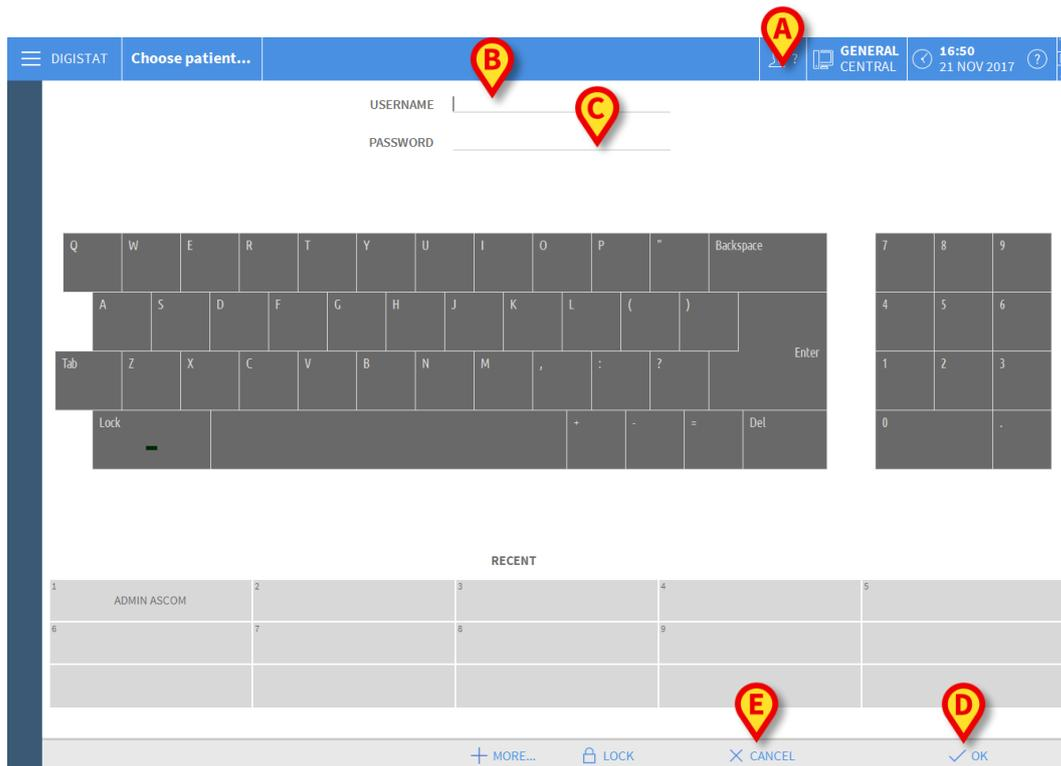

Fig 6
For this reason, at the beginning of every work session, it is necessary to click the **User** button (Fig 6 **A**).
- Enter your username in the “**Username**” field (Fig 6 **B**)
- Enter your password in the “**Password**” field (Fig 6 **C**)
- Click the **Ok** button (Fig 6 **D**)
- Click the **Cancel** button (Fig 6 **E**)
To log in again, click the **User** button again. The screen shown in Fig 6 will appear again.
After selection, the “**User list**” window closes and the name of the selected user appears in the “**Username**” field on the “**Login**” screen (Fig 6 **B**).